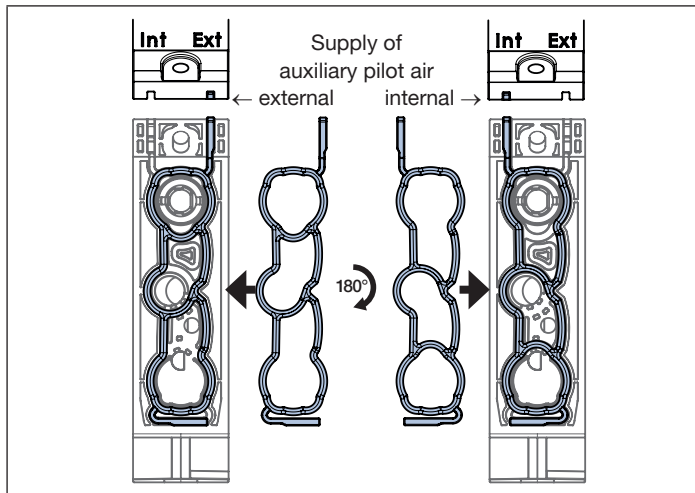

Fig. 10: By rotating the seal 180°, it is set whether the auxiliary pilot air supply occurs internally or externally.
- ▶ Prior to start-up, make sure all the seals of the connection modules are positioned equally (external or internal, see “Fig. 10”).